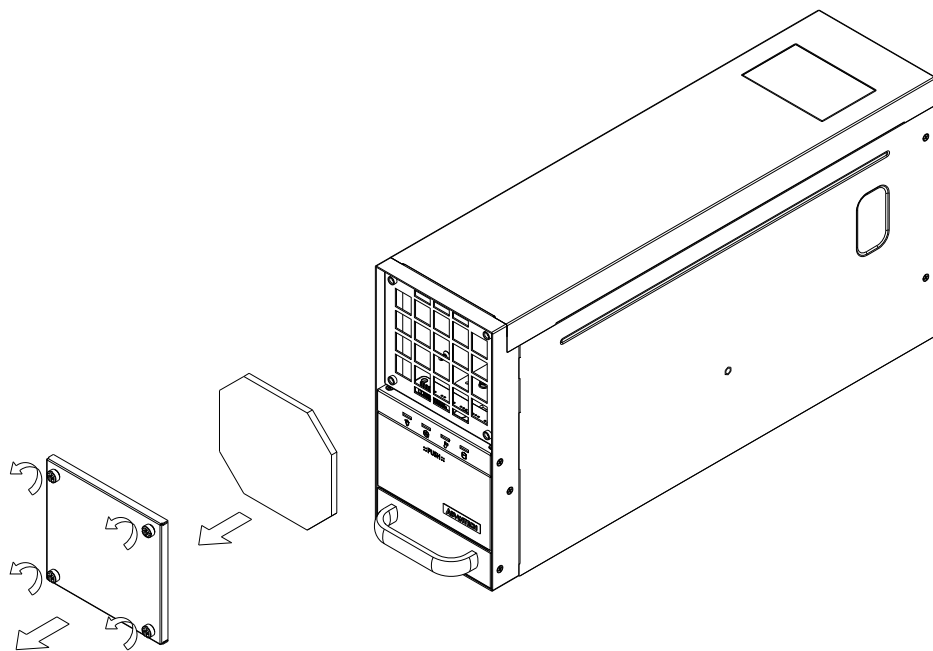

Figure 3.5 Replacing the filters/ 更換濾網 / 更換濾網
4. Replace them inside the unit and fasten the thumbscrews on the iron net (see Figure 3.5).